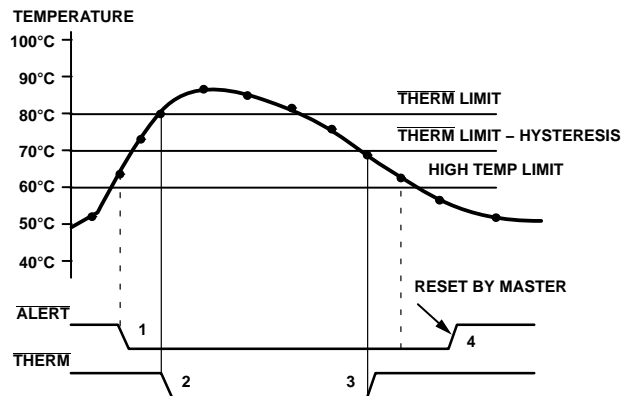

Figure 19. Operation of the $\overline{\text{ALERT}}$ and $\overline{\text{THERM}}$ Interrupts
Figure 19 shows how the $\overline{\text{THERM}}$ and $\overline{\text{ALERT}}$ outputs operate. A user may wish to use the $\overline{\text{ALERT}}$ output as a SMBALERT to signal to the host via the SMBus that the temperature has risen. The user could use the $\overline{\text{THERM}}$ output to turn on a fan to cool the system, if the temperature continues to increase. This method would ensure that there is a fail-safe mechanism to cool the system, without the need for host intervention.
- The $\overline{\text{THERM}}$ output de-asserts (goes high) when the temperature falls to $\overline{\text{THERM}}$ limit minus hysteresis. In Figure 19, the default hysteresis value of 10°C is shown.